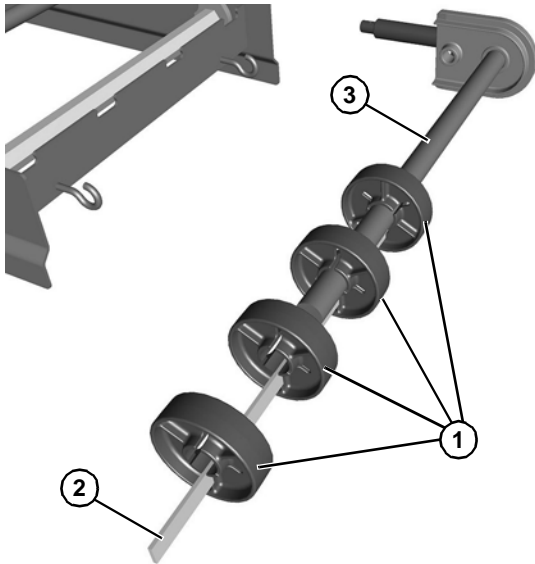

Figure 65
- Slide the pucks (**Figure 65, item 1**) and alignment bar (**Figure 65, item 2**) off the idler shaft (**Figure 65, item 3**).